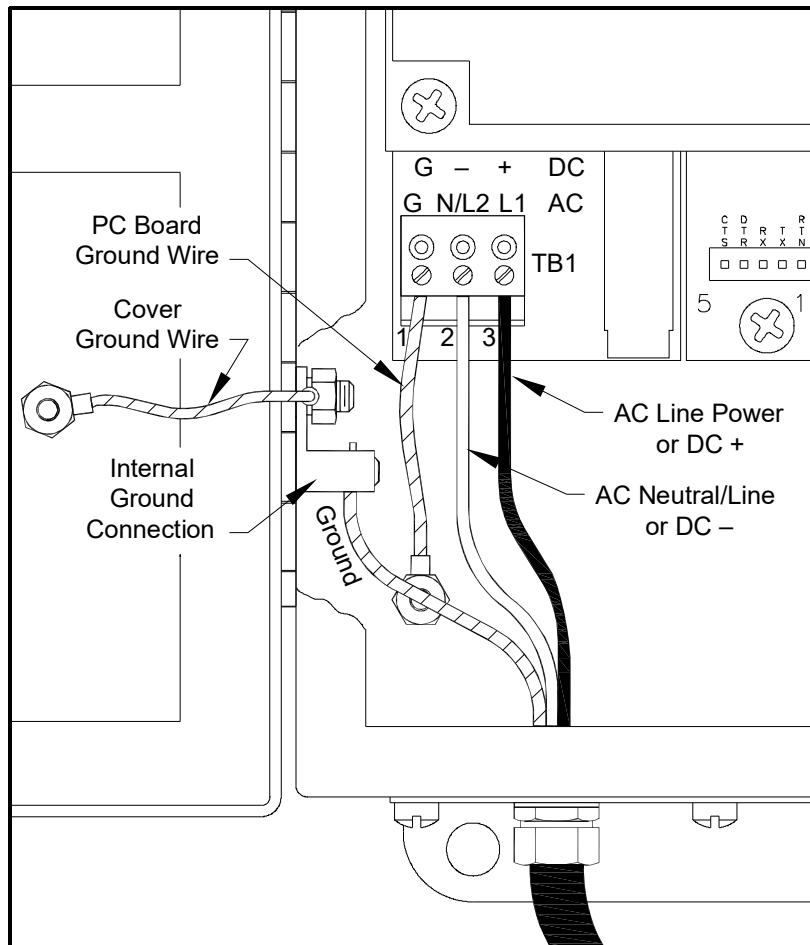

Figure 3: Wiring the Line Power
Refer to Figure 3 on page 6 or Figure 10 on page 16 to locate terminal block **TB1** and connect the line power as follows:
3. Connect the ground lead to the internal ground connection located on the side panel of the enclosure (see Figure 3).
4. Connect the neutral or line lead (or the negative – DC power lead) to TB1-2 and the line power lead (or the positive + DC power lead) to TB1-3 as shown in Figure 3.